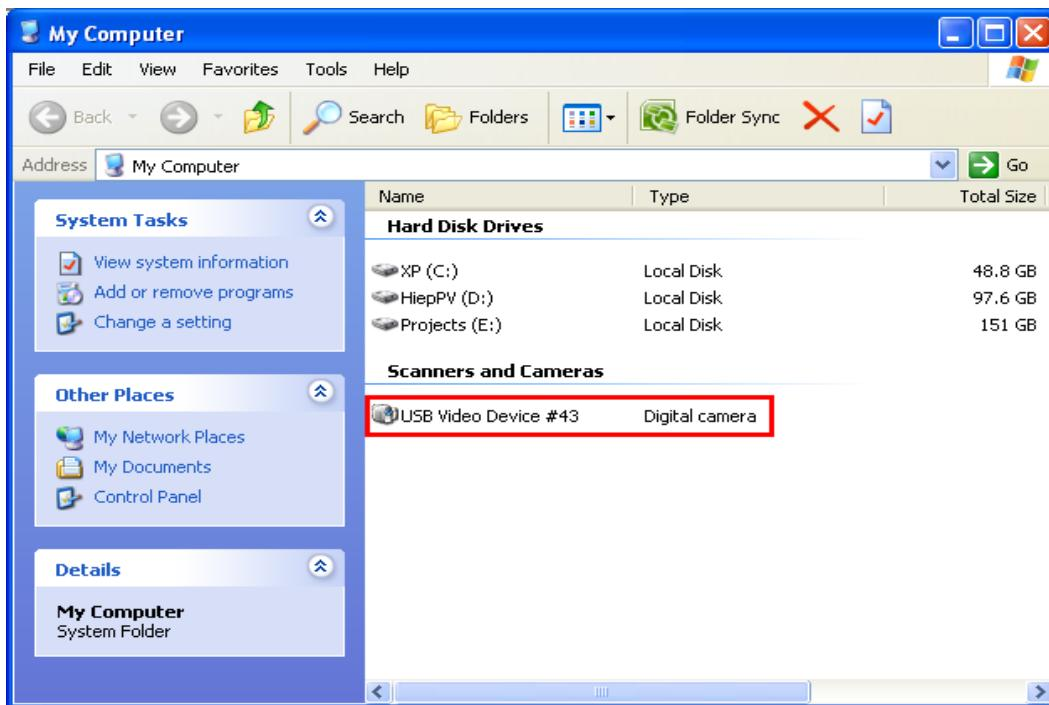

Figure J-5. USB video device entry
- Double-click on My Computer icon, USB Video device icon is also appeared as shown in Figure J-5